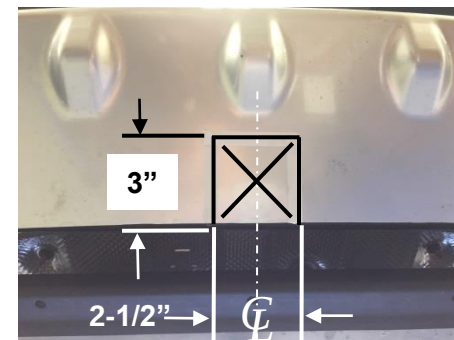

Figure 3
- 4. Trim Fascia:** Using marker, tape measure and tape, find center of fascia. Using die grinder, trim fascia in area shown in **Figure 3**.